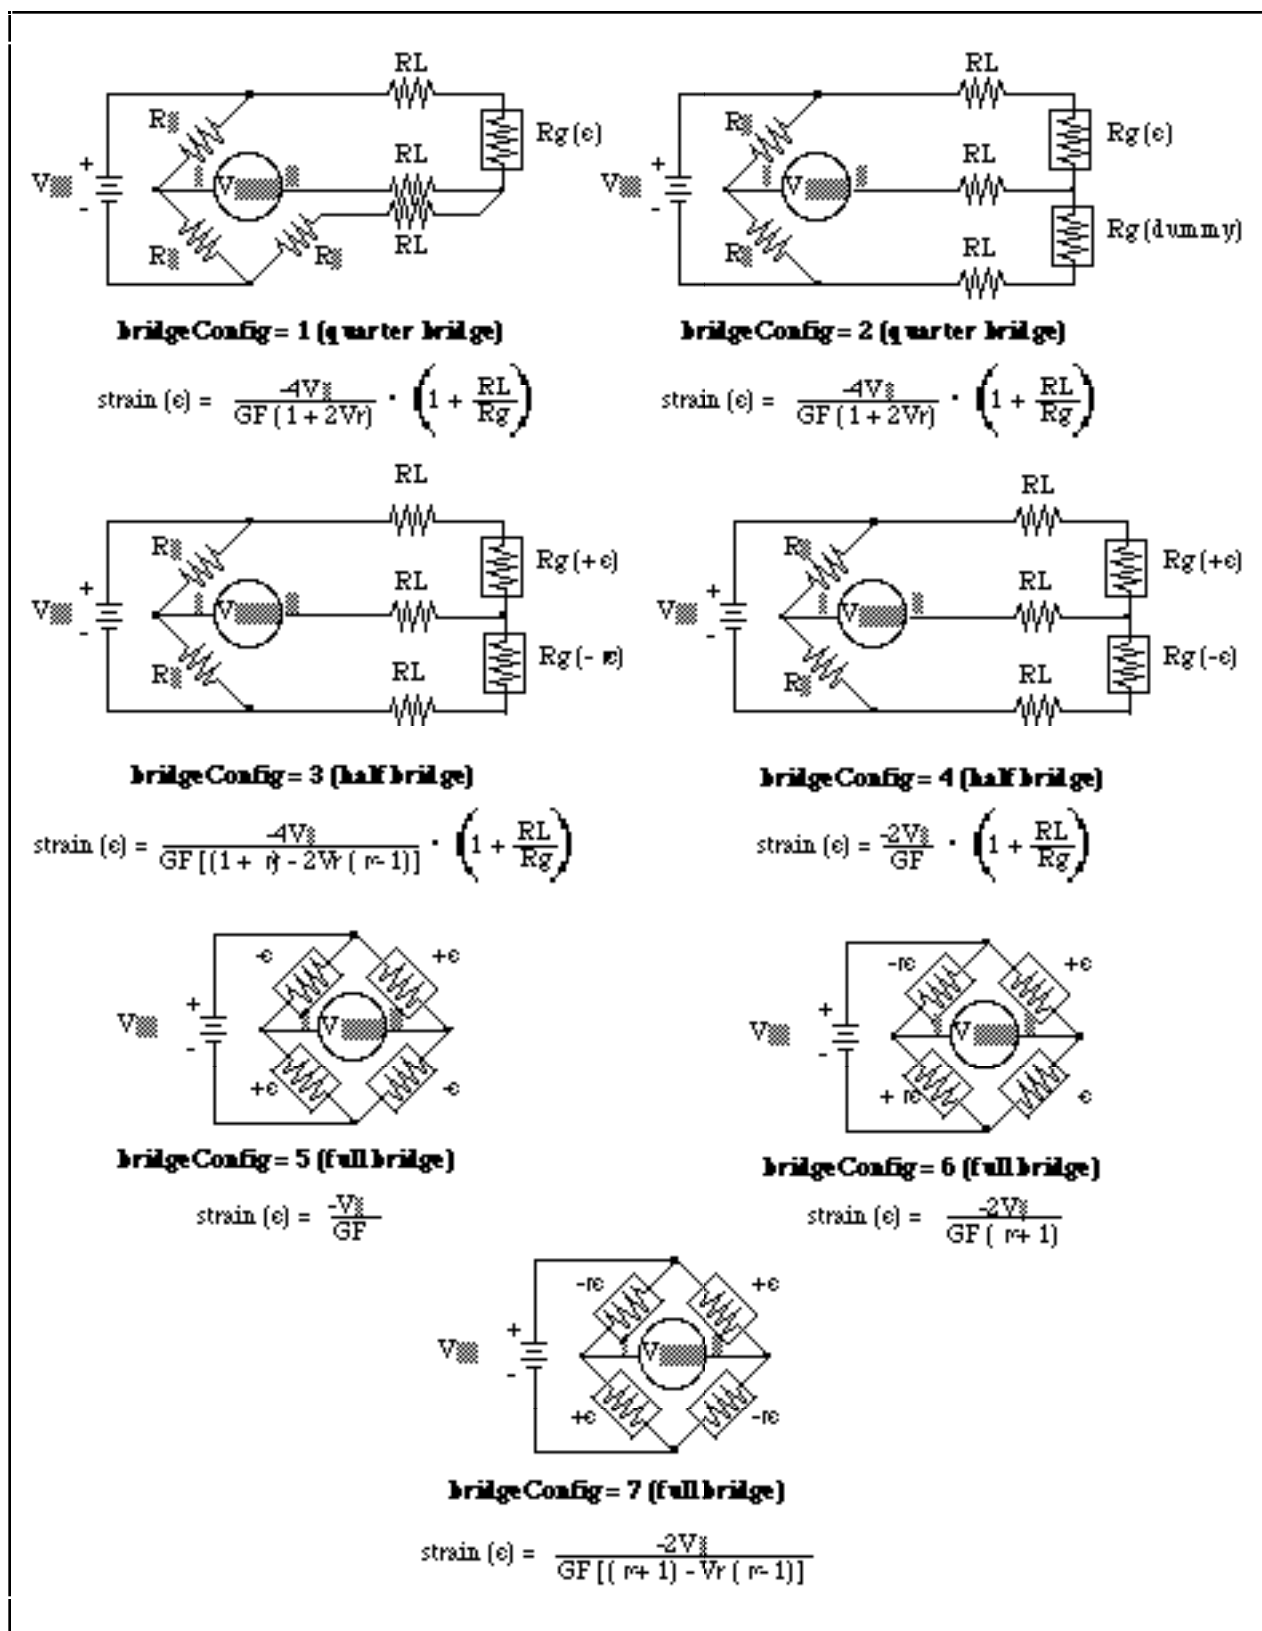

Figure D-1. Strain Gauge Bridge Configurations
**bridgeConfig** is an integer indicating in what type of bridge configuration the strain gauge is mounted. Figure D-1 shows all the different bridge configurations and the corresponding values that should be passed in **bridgeConfig**.
The conversion formula used is based solely on the bridge configuration. The seven bridge configurations supported and the corresponding formulas are given in Figure D-1. For all bridge configurations, the following formula is used to obtain  $V_r$ :